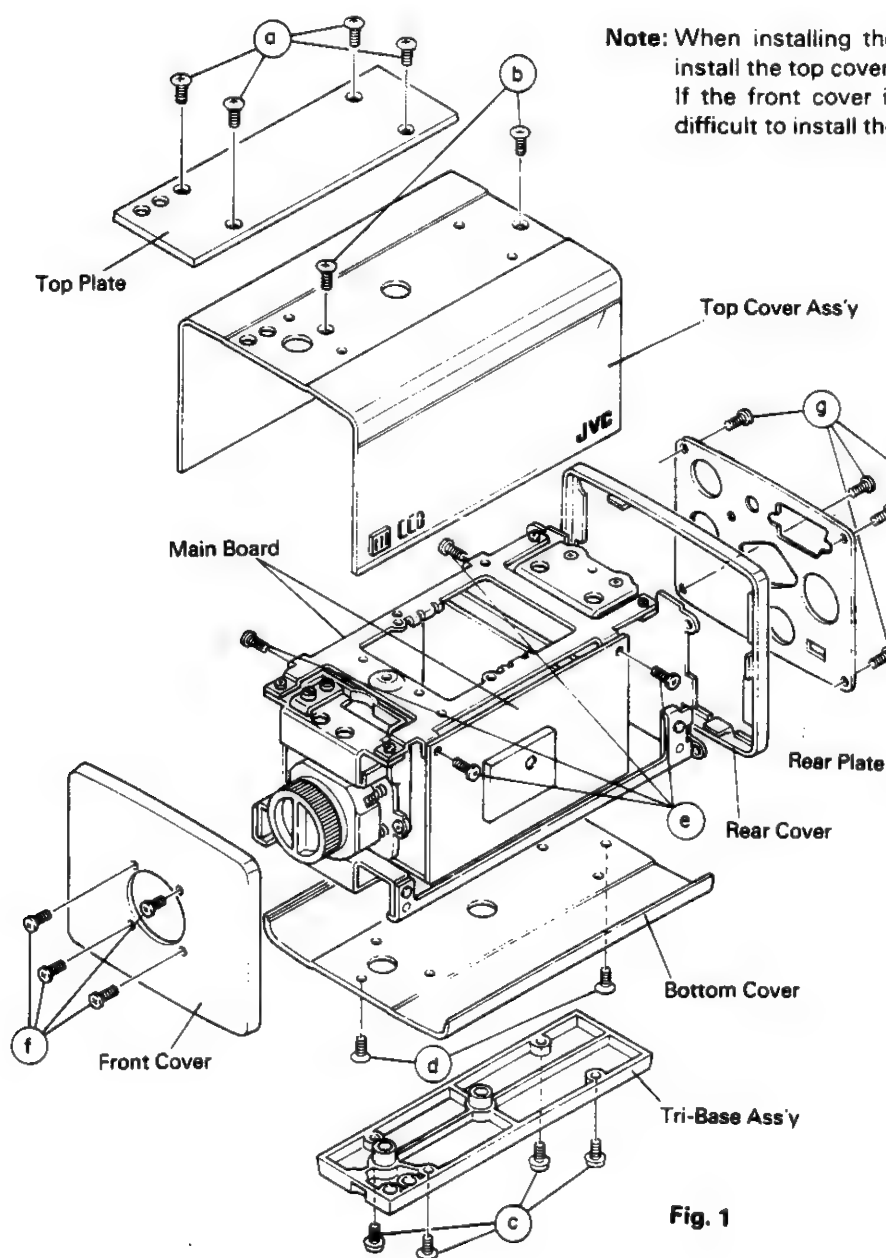

Fig. 1
- (1) Remove the four screws ③ shown in Fig. 1 to remove the top cover.
- (2) Remove the two screws ⑥ shown in Fig. 1 to remove the top cover ass'y by lifting it up.
- (1) Remove the four screws ④ shown in Fig. 1 to remove the tri-base ass'y.
- (2) Remove the two screws ⑤ shown in Fig. 1 to remove the bottom cover.
- (1) Remove the four screws ⑦ shown in Fig. 1, and both left and right mother PC boards can be removed.
- (1) Remove the four screws ① shown in Fig. 1.
- (1) Remove the four screws ② shown in Fig. 1.